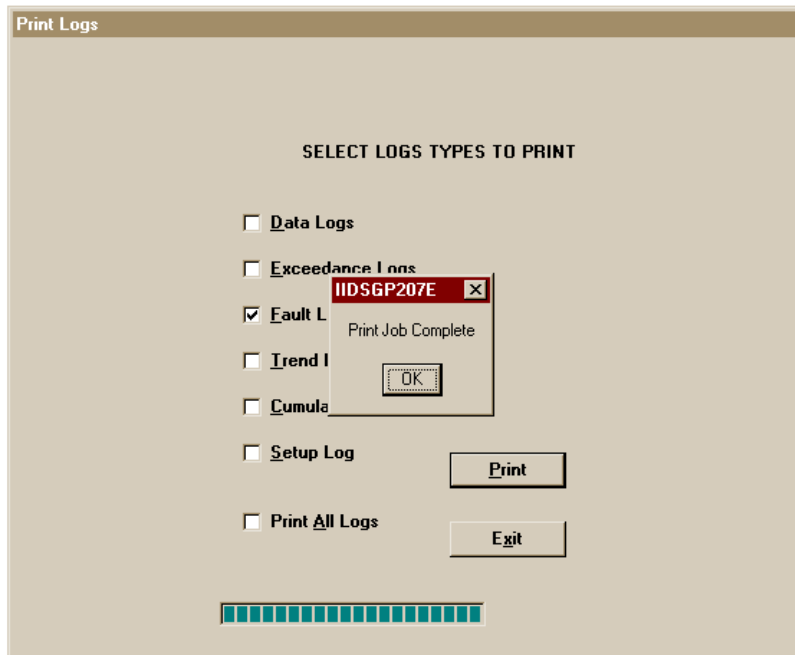

Figure 47. Printing Complete Dialog Box
7. If log of the type indicated were found, a dialog box will be displayed indicating the status of the print job (refer to Figure 47).